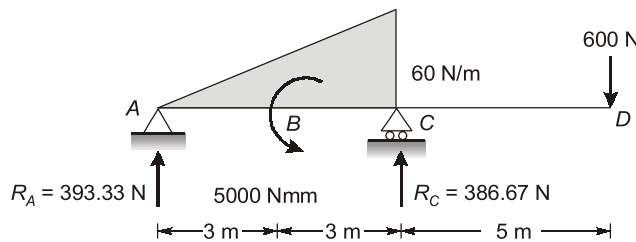

Fig. 4.4
Q.4.3 A beam ABCD is loaded as shown in figure 4.4. The beam is of rectangular section 50 mm x 100 mm.